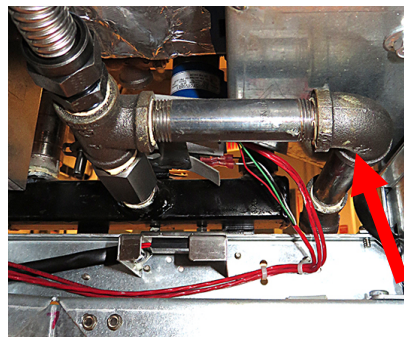

**Figure 1**
3. Remove the filter pan (see Figure 1).